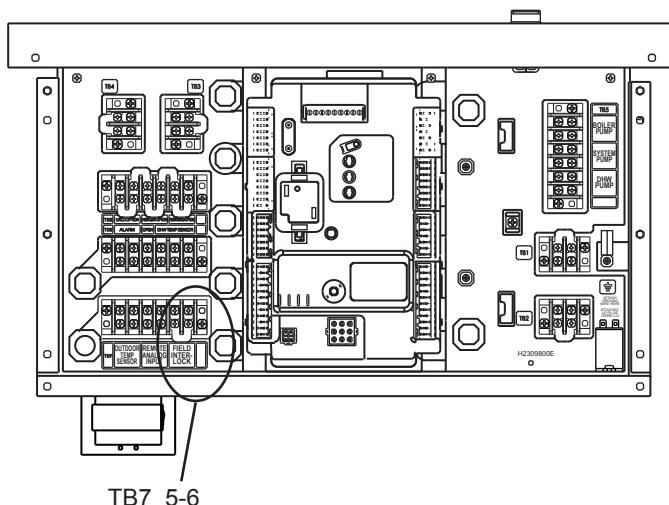

Fig. B1-2 - Simulating a "call for heat" input
5. Insert a jumper across terminals 5 and 6 on TB-7 on the control board. See Fig. B1-2. This will create a permanent "call for heat" signal. (Again, remember to remove this when you are through.)